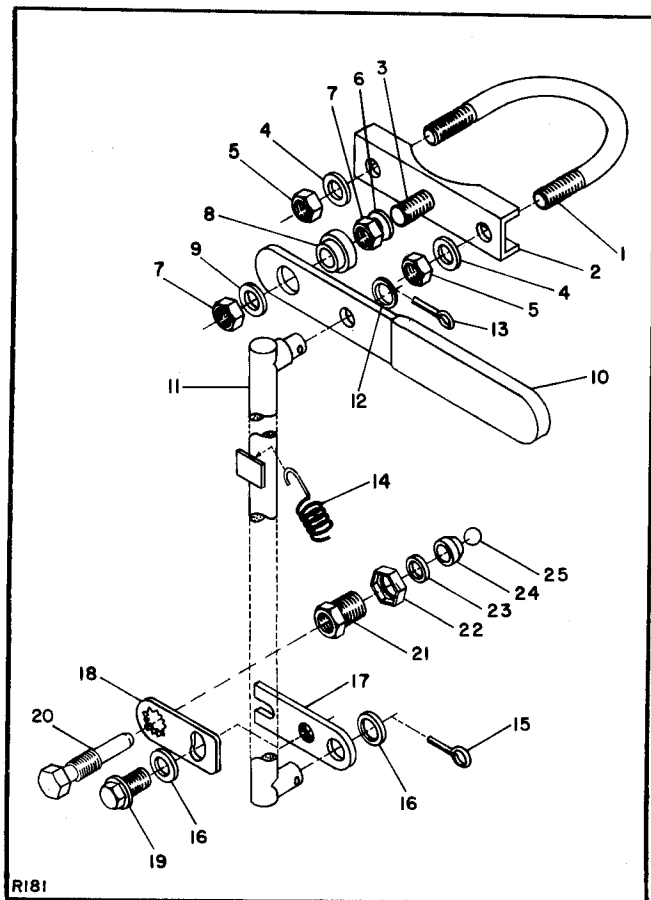

Figure 3-3. Release Valve and Linkage
3-10. Release Valve. (Figure 3-3)
1. Remove the release return spring (14, figure 3-3).
2. Loosen retaining screw (19) sufficiently to move release valve arm (18).
3. Slide the release valve arm down (clockwise) while holding the release valve arm extension (17) up to obtain 1/8 to 1/2 inch clearance between base and arm when release valve spindle (20) is tightened firmly with the fingers. If, when performing this operation, a 1/8-inch minimum clearance cannot be obtained, perform steps a through d below.
NOTE: It is recommended that certain parts (indicated in figure 3-3) be replaced each time the equipment is dismantled. These parts are available separately or as part of Release Valve Arm Kit, No. 900030.